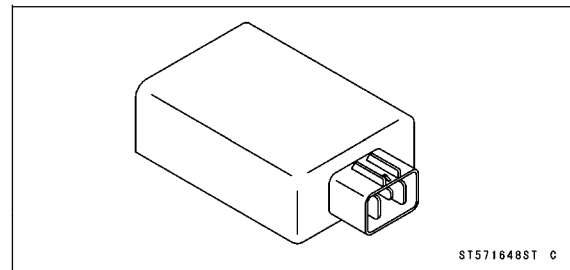

Fig. 2-1 KDS 3 Adapter
- Connect the KDS 3 Adapter (P/N 57001-1648) to the unit (see section 3.2). Fig. 2-1